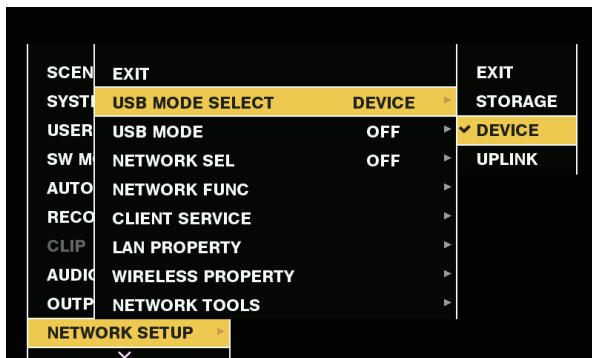

Fig. 2
**2** Set [DEVICE] in the main menu → [NETWORK SETUP] → [USB MODE SELECT]. (Fig. 2)